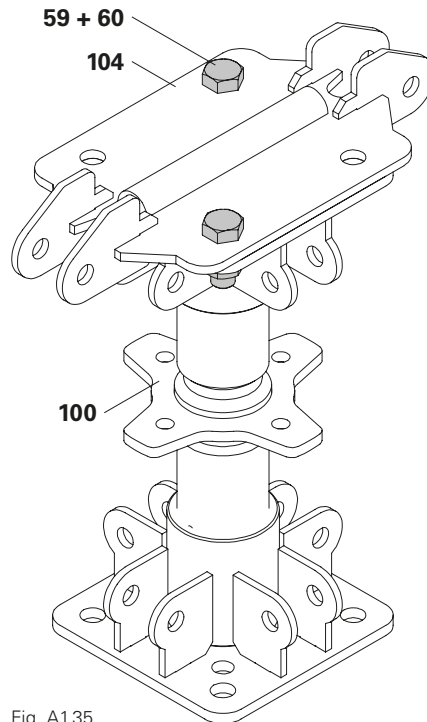

Fig. A1.35
- Mount the Head Spindle Centring ATS (**104**) in a diagonally offset position on the flange of the Spindle ATS 360-550 (**100**) using 2x bolt ISO 4017 M24 x 60-8.8 (**59**) and nut ISO 4032 M24-8 (**60**). (Fig. A1.35)